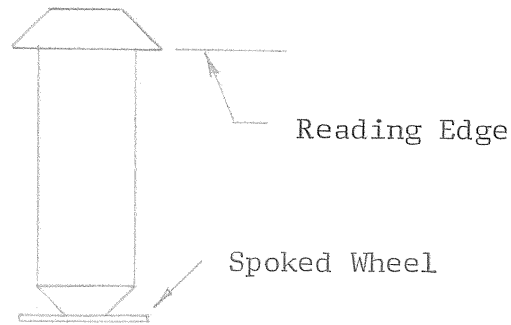

Figure 4-1. Rotameter Float
Before mounting, lay the Calorimeter on its back and insert the float into the rotameter by removing the 1-7/8 inch drain cock at the bottom of the rotameter. The float must be inserted with the spoked wheel facing the bottom of the rotameter. DO NOT DROP THE FLOAT. DAMAGE TO THE FLOAT WILL CAUSE INACCURATE READINGS. Refer to Figure 4-1 for an illustration of the float.
1. Turn on the water and adjust the flow rate for the maximum power of the load being used; e.g., 6 gpm for 15 and 25 kW and 8 gpm for 50 kW. These are minimum values. Flow rate must be regulated at the water flow valve with the source valve turned on full. See Fig. 4-1 below to determine the reading edge of the float.